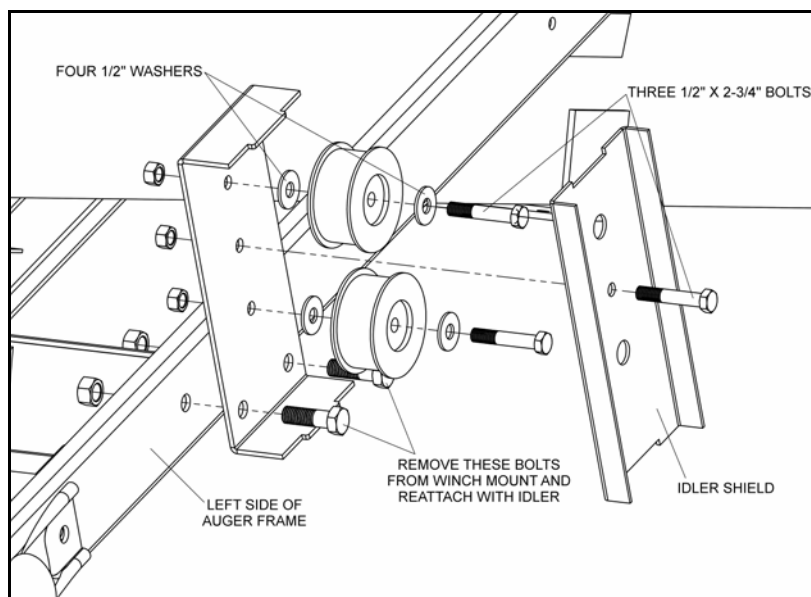

Figure 3.36
15. An idler is standard equipment on all TFX2 augers. Install idler by removing the two highest 5/8" bolts on left hand side of winch mount (refer to Figure 3.1). Use removed bolts to secure idler to frame. Re-tighten bolts as shown in Figure 3.36.
16. Install two idler pulleys to idler mount bracket with two 1/2" x 2-3/4" bolts, four 1/2" washers and two 1/2" locknuts. Install idler shield to idler mount bracket with one 1/2" x 2-3/4" bolt and 1/2" locknut (Figure 3.36).